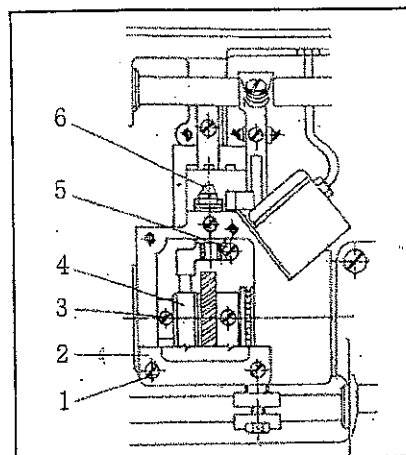

Fig.23
32、 The position between hook and opener motion adjustment(Fig.23)